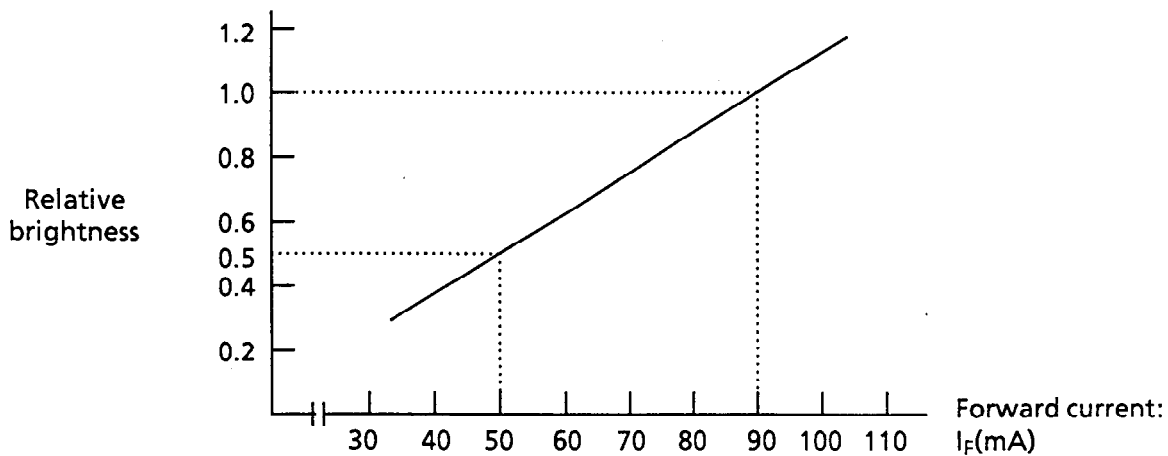

Figure 12 Forward Current-Brightness Characteristics ($T_a = 25^\circ\text{C}$)
For this resistance value, the forward current becomes lower than 50 mA at 25°C. The surface brightness of the LED backlight varies with the forward current. See Figure 12. Compared with 1.8 (4) brightness ($I_F = 90$ mA), the brightness is about 40%.